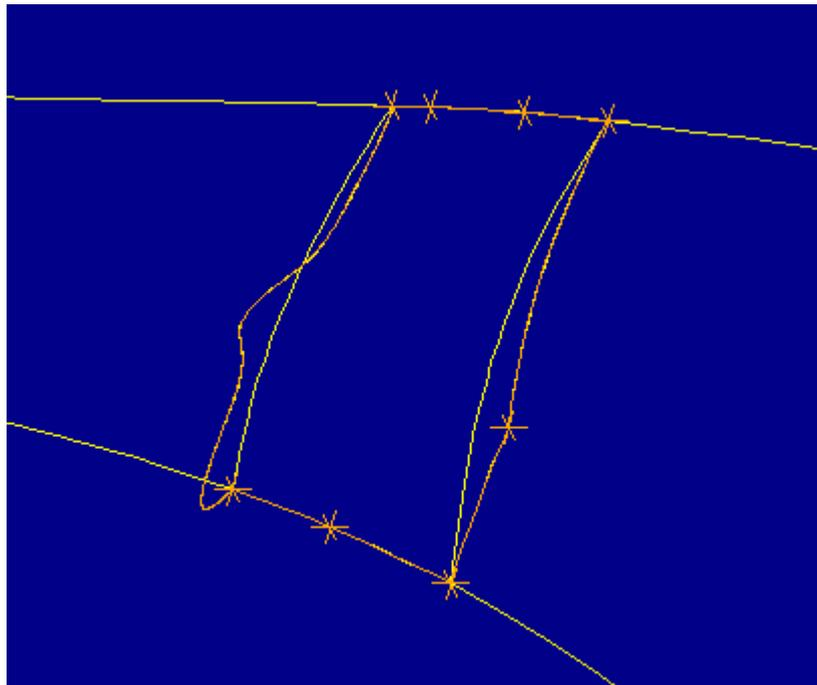

Figure 29
20. In the SELECT SURF menu select **Sel Surface** and the meshed surface. In the SELECT CONT menu select **Sel Contour**. In the CHAIN OPT menu select **Select**. Figure 29 shows the original contour ready to be edited. Notice the extra vertices in the top, right, and bottom edges and the poor quality of the left edge. Edge fragmentation is common to imported data and can lead to extra, unnecessary surface patches when the edges are referenced in sweeps or blends.